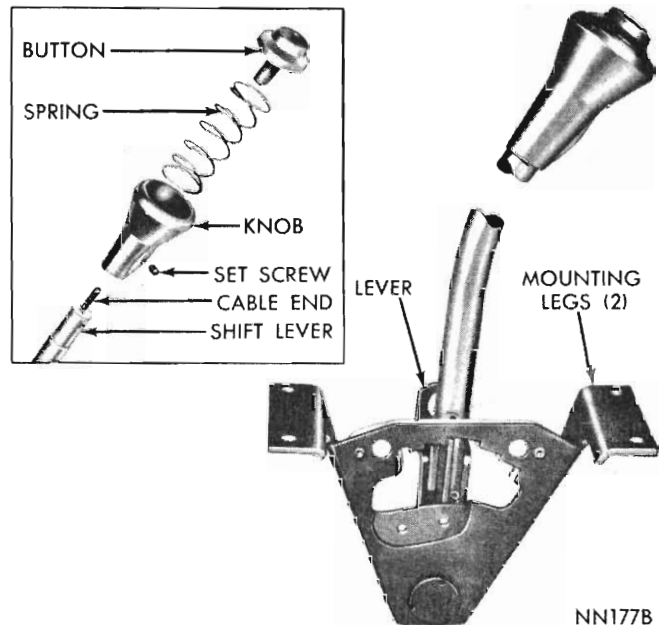

Fig. 18 - Console gearshift unit
(1) Disconnect negative (ground) cable from battery.
(2) Remove gearshift handle set screw with an Allen wrench (Fig. 18). Unscrew the knob (button), spring and handle assembly from the cable end.